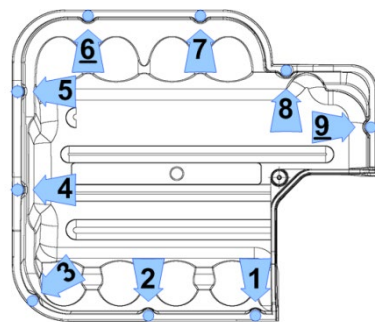

Figure 32 – Top Cover Torque Sequence
1. Place the Capacitor Cover and secure it with the long fastener (M5 x 20) and flat washer in position number three (3) as shown in the following figure. Use the remaining fasteners to secure the cover. Fasten according to the sequence in Figure 32 (Capacitor Cover Torque Sequence). Follow the sequence twice.